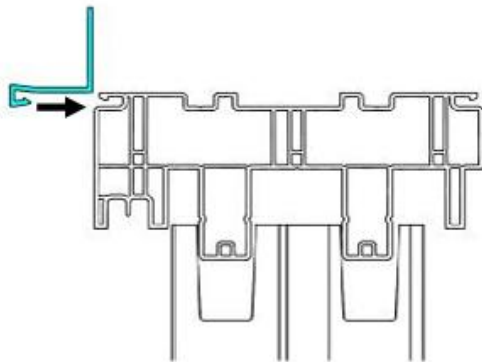

Figure 5
- Install the horizontal nailing fin in the exterior header accessory groove as shown (Figure 5 and 6)